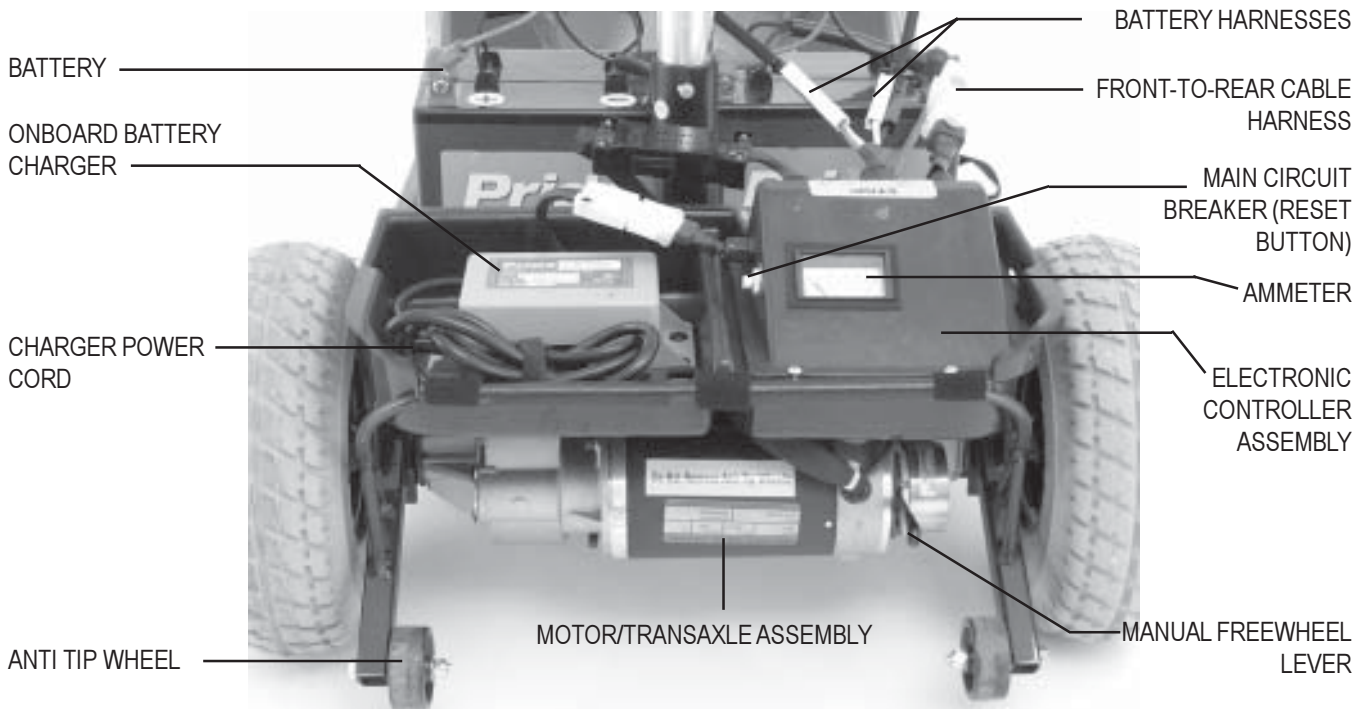

FIGURE 8. UTILITY TRAY COMPONENTS
The onboard battery charger, the charger power cord, the batteries, the electronic controller assembly, the main circuit breaker, the manual freewheel lever, and the motor/transaxle assembly are located beneath the shroud on the rear section of your Legend. See figure 8. Refer to IX. “Disassembly and Assembly” for instructions on removing the rear shroud.
- The charger is located on the utility tray. See figure 8.
- The main circuit breaker (reset button) is mounted on the left side of the electronic controller assembly cover. See figure 8.
- The manual freewheel lever is located on the end of the motor/transaxle assembly at the right rear of the Legend. See figure 8.
The motor/transaxle assembly is the electromechanical unit that converts the electrical energy of your Legend's batteries into the controlled mechanical energy that drives the Legend's wheels. See figure 8.
The anti-tip wheels are an integral and important safety feature of your Legend. Do not, under any circumstances, remove the anti-tip wheels from your Legend. See figure 8.